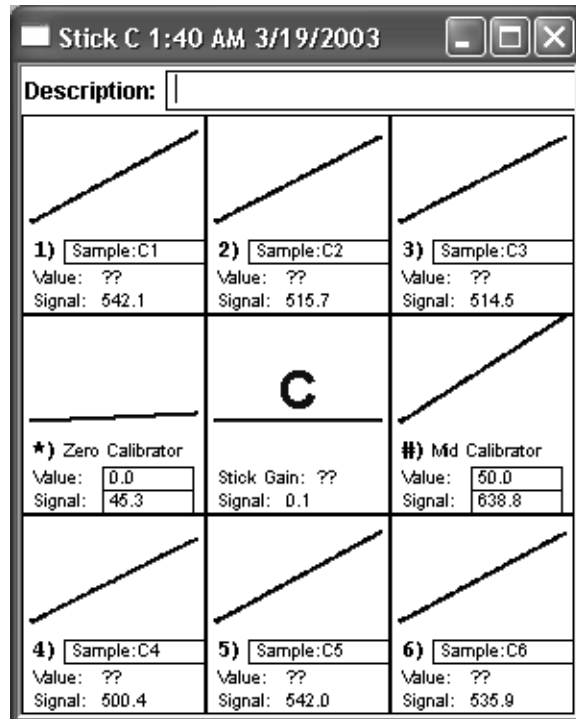

Figure 3-16: Stick Display Window Showing the Kinetic Plots
- 9) The Stick Display window opens (Figure 3-16), showing kinetic plots of the signal measurement.